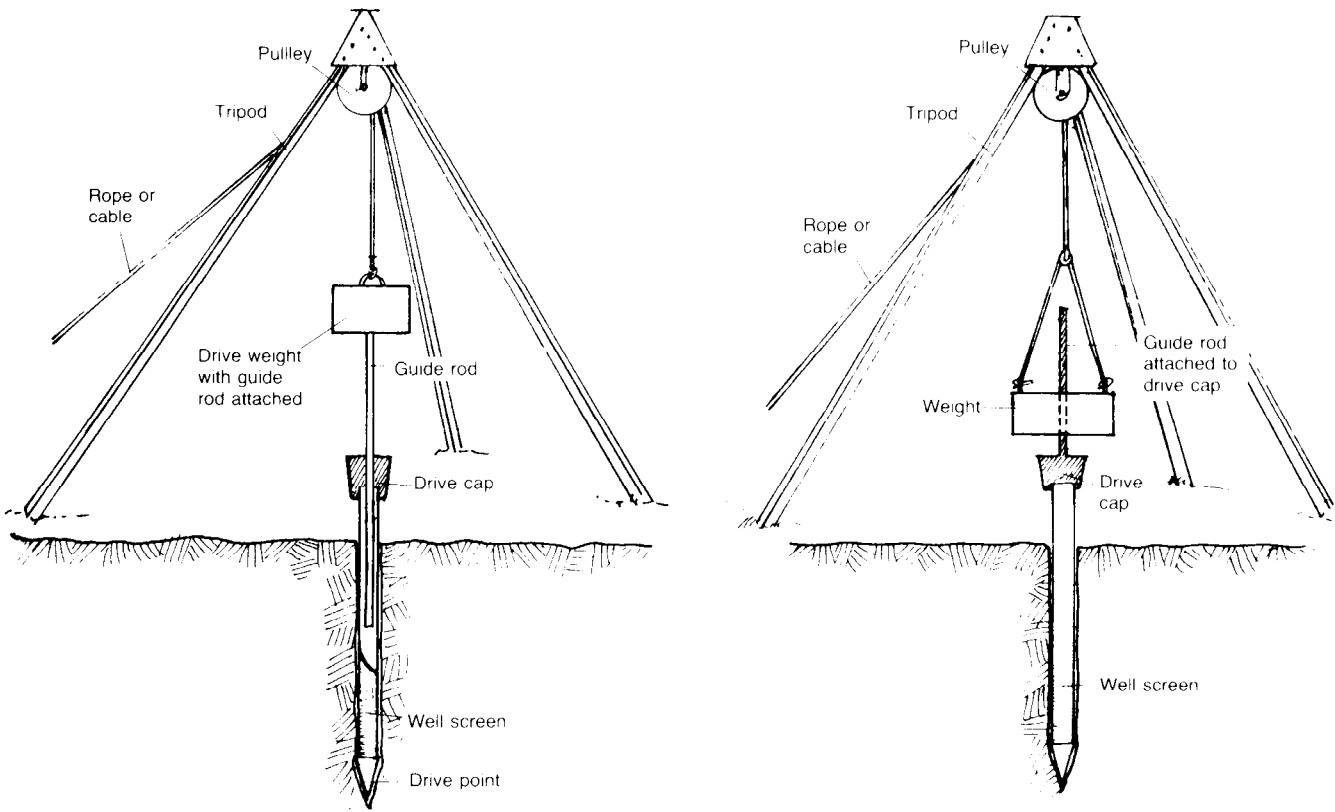

Figure 4. Driving Weights
**Driving Weight.** This method also requires a tripod with pulley and rope to be erected over the site. A heavy weight is raised with the rope and allowed to fall on the drive cap. The falling weight is directed by a guide rod, which either is attached to the weight and slides into the well pipe, or is attached to the well pipe and slides through the weight, as shown in Figure 4. This method can achieve the greatest depths possible for a driven well.